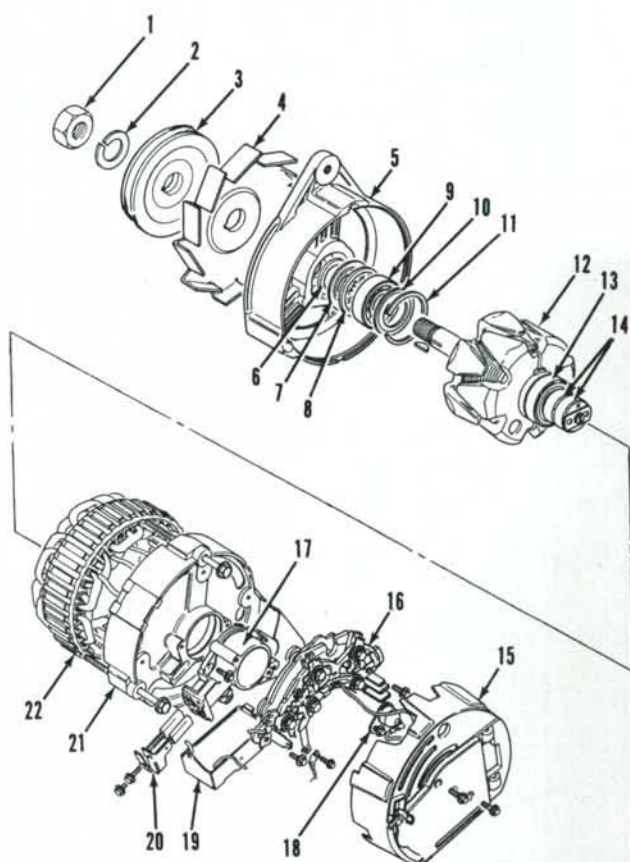

Fig. 64—Exploded view of Lucas Model A115-45 alternator.
79. DISASSEMBLY. To disassemble the alternator, unbolt and remove end cover (15—Fig. 64). Disconnect yellow and black wires, then remove regulator (19). Remove outer brush screw and remove brushes (20). Unbolt and remove brush box (17). Place an alignment chalk mark across drive end frame (5), stator (22) and slip ring end frame (21). Remove the three through-bolts and remove stator (22) and slip ring end frame (21) assembly. Unsolder stator wires from rectifier (16), remove three mounting screws and lift off rectifier (16). Remove nut (1), lockwasher (2), pulley (3) and fan (4), then press rotor (12) from drive end frame. Remove snap ring (11) and dished washer (10), then press bearing (9), seal ring (8),
To renew rear bearing (13—Fig. 64), unsolder slip ring connecting wires and remove slip rings (14). Press rear bearing off the rotor.